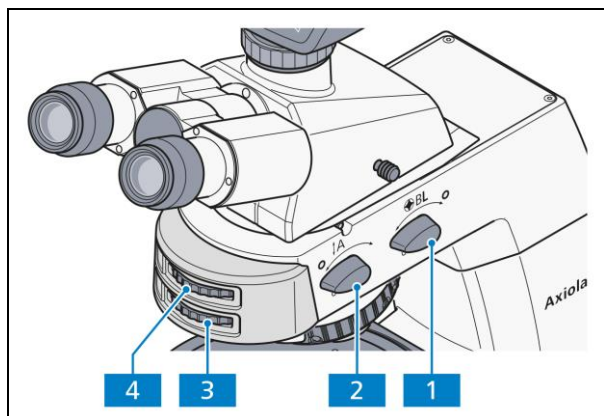

Fig. 4-17 Axiolab 5 for transmitted light conoscopy
- Swivel the analyzer into the beam path (**On** position) with rotary knob **A** (Fig. 4-17/2). The polarization direction can be changed using the setting wheel (Fig. 4-17/3) of the analyzer.
- Switch on the Bertrand lens **BL** (Fig. 4-17/1) (Position **On**). The axial figure will appear in the field of view.
- Bring the axial figure into focus with the setting wheel (Fig. 4-17/4).
(3) Evaluation